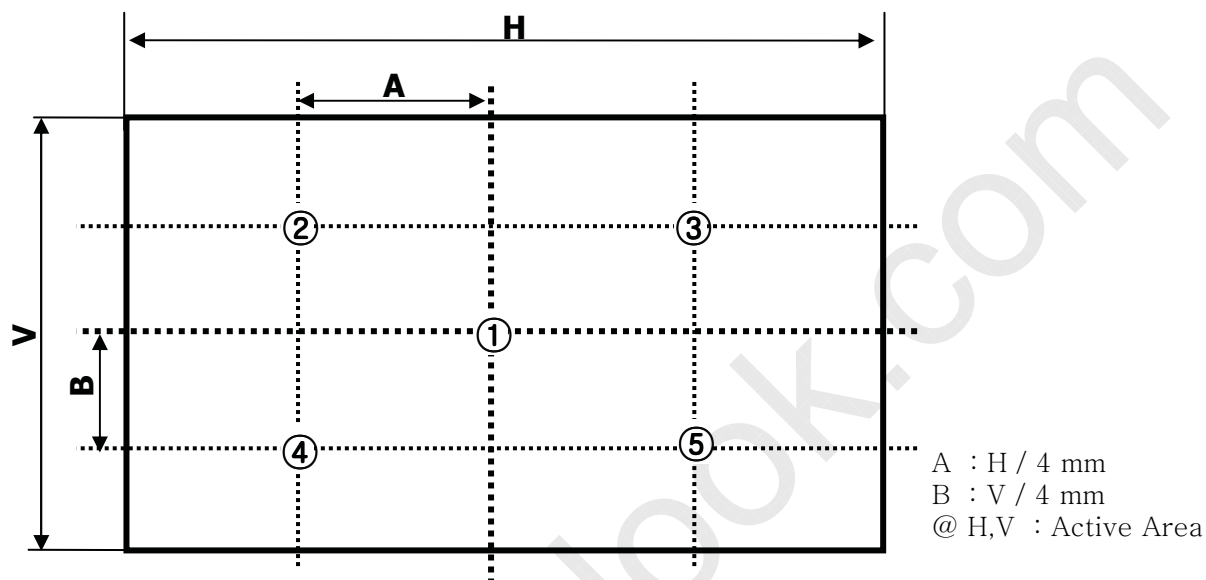

FIG. 2 Measure Point for Luminance
- Surface luminance is determined after the unit has been 'ON' and 1Hour after lighting the backlight in a dark environment at $25 \pm 2^\circ\text{C}$. Surface luminance is the luminance value at center 1-point across the LCD surface 50cm from the surface with all pixels displaying white. For more information see the FIG. 2.
For more information, see the FIG. 2.